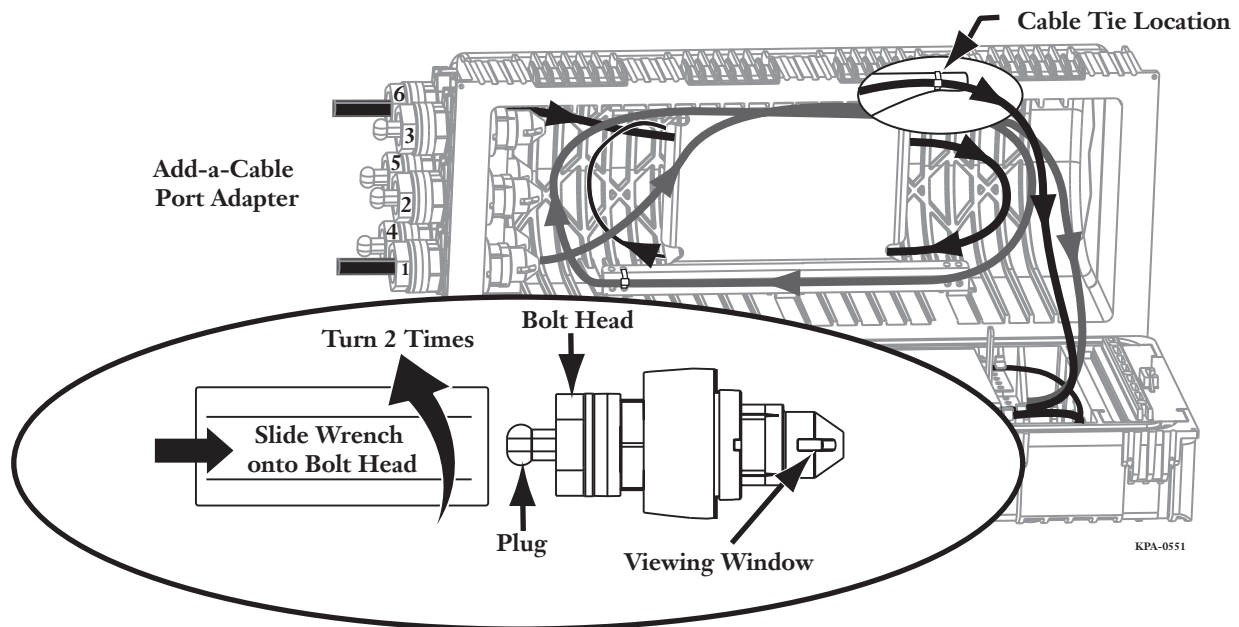

Figure 47
- Step 6:** Route slack for adapters 4 through 8 before routing slack from adapters 1 through 3. Route buffer tubes in a clockwise direction into the area behind the fiber slack storage spool bracket in the top of the terminal cover. Secure the buffer tube slack to the bracket using a cable tie (Figure 47).
- Step 1:** To secure the buffer tube to the tray, adjust the stop screw on the crimping tool (p/n M67-020) so the jaws of the tool are equal to the outer diameter of the buffer tube as shown in Figure 47.